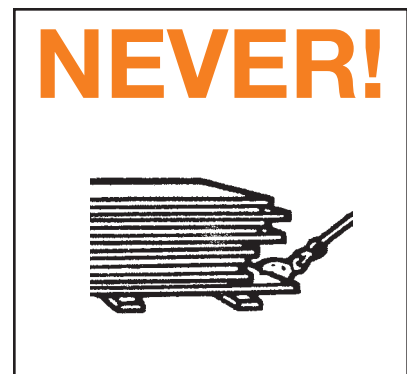

Figure 12
17. **DO NOT** misuse a clamp. Never lift a plate from the bottom of a stack (Fig. 12).